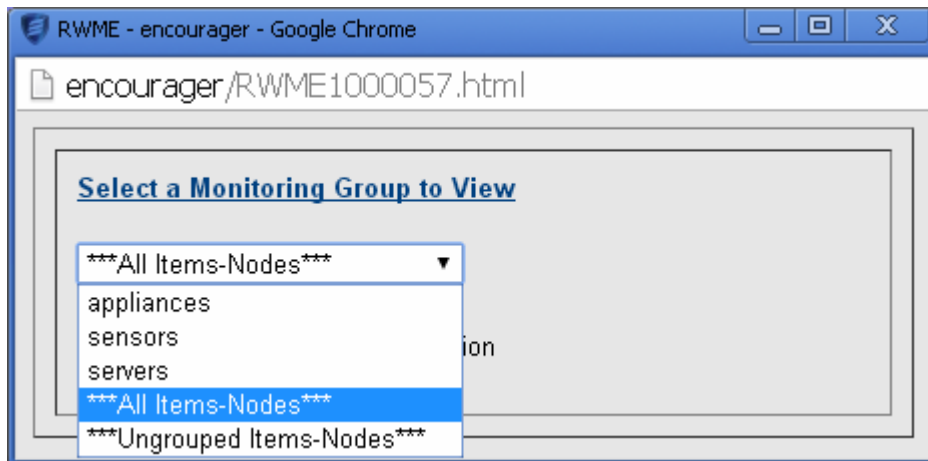

Figure 9: Selecting a Monitoring Group to View
1. Click the **Viewing Monitor Group “All Items-Nodes” (change)** link in the upper right corner of the Monitor List. A window should pop up with the name **Select a Monitoring Group to View** as shown in Figure 9.